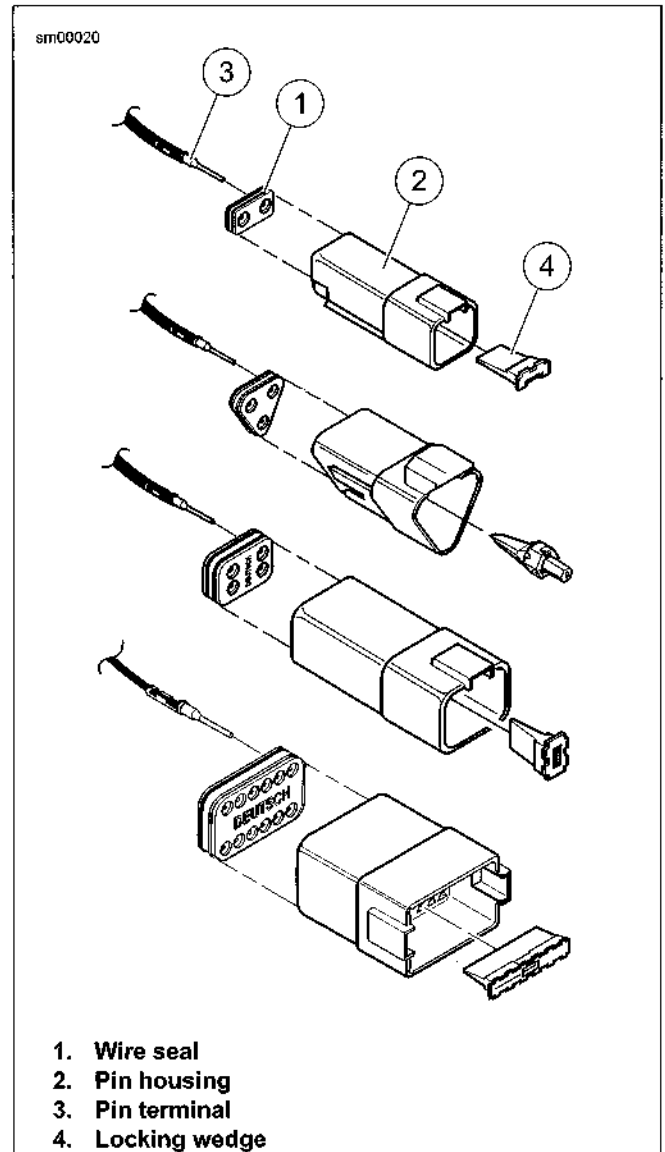

Figure A-35. Deutsch DT Sealed Connector: 2, 3, 4 and 12-Place Pin Housings
1. See Figure A-35. Fit wire seal (1) into back of pin housing (2).
2. Grasp wire lead approximately 1.0 in (25.4 mm) behind the pin terminal (3). Gently push pin through holes in wire seal into its respective numbered chamber until it "clicks" in place.